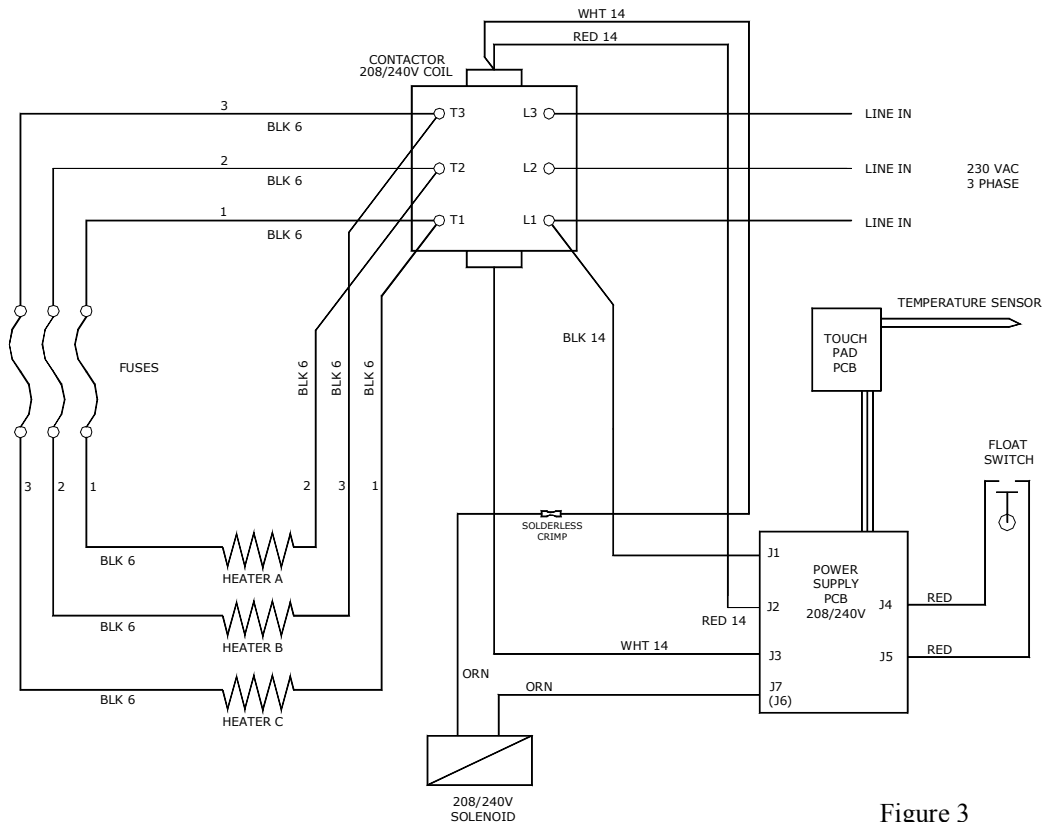

Figure 3
2. Connect **230-volt A.C.** electrical lines to wire labeled 1,2,and 3 in junction box on generator. (see figure 3)
See figure 3.
6. Bring the control sensor wire to the generator. With the top cover removed, **see figure3**, connect the control sensor wires, using wire nuts, to the two loose wires on the back of the control panel.